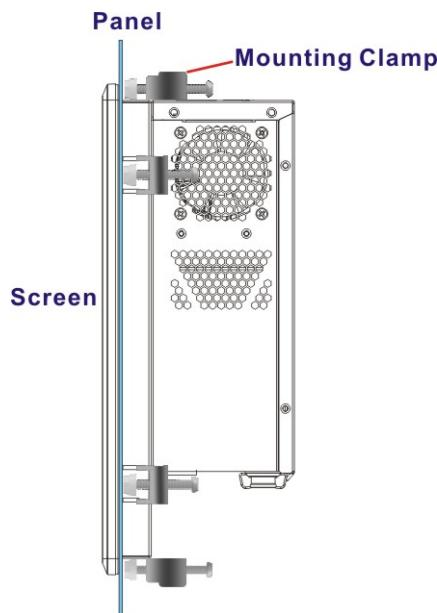

Figure 3-22: Tighten the Mounting Clamp Screws
**Step 4:** Insert the mounting clamps into the mounting brackets and pre-formed holes along the edges of the front panel, behind the frame (**Figure 3-22**). The required number of mounting clamps may vary by models.
**Step 5:** Tighten the screws that pass through the mounting clamps until the plastic caps at the front of all the screws are firmly secured to the panel (**Figure 3-22**).